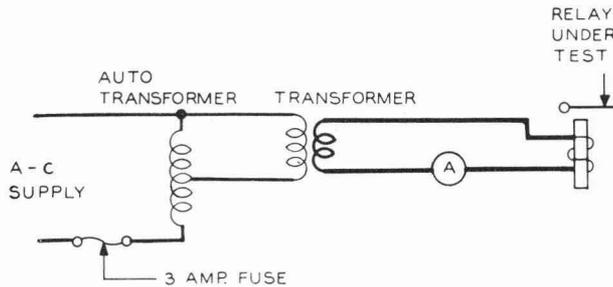

Fig. 10 - Test Connections Where Relay Is Rated in Amperes AC
(6) Where electrical requirements are expressed in amperes alternating current, an autotransformer should be used. Where current in excess of the output rating of the autotransformer is required, a transformer should be added as shown in Fig. 10. If the 352AL transformer is used, terminals 1 and 3 are connected to the relay and terminals 4 and 210, 230, or 250, depending on line voltage, are connected to the output of the autotransformer. With the above arrangement, current up to 60 amperes at 2.5 volts alternating current can be obtained by manipulation of the autotransformer. For test purposes, the current should be gradually increased to the specified operate value and gradually reduced to the specified release value.
(7) Operate, nonoperate, and release adjustments are made, as far as possible, by changing contact pressures (3.08). In no case should the pressure be less than the specified minimum. Additional changes